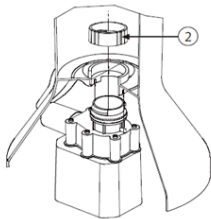

Fig. 2
- First remove the filtration top cover (4) and the filtration insert (10) from the filtration assembly. Lubricate the O-ring (20) on the pump inlet branch with grease. Hold the filtration case (3) carefully and insert the pump body (1) so the inlet hole of the pump reaches the hole on the side of the base. Insert the pump so it rests on the bottom and the two lugs on the pump fit into two slots in the bottom of the filtration case (3). Reach inside the filtration case and fit the pump's nut (2) on the inlet hole of the pump's inlet branch. Turn the nut (2) clockwise to tighten it. See **Fig. 2**. Place the filtration insert (10), the cover (4) and turn it to lock it in the filter body (3).